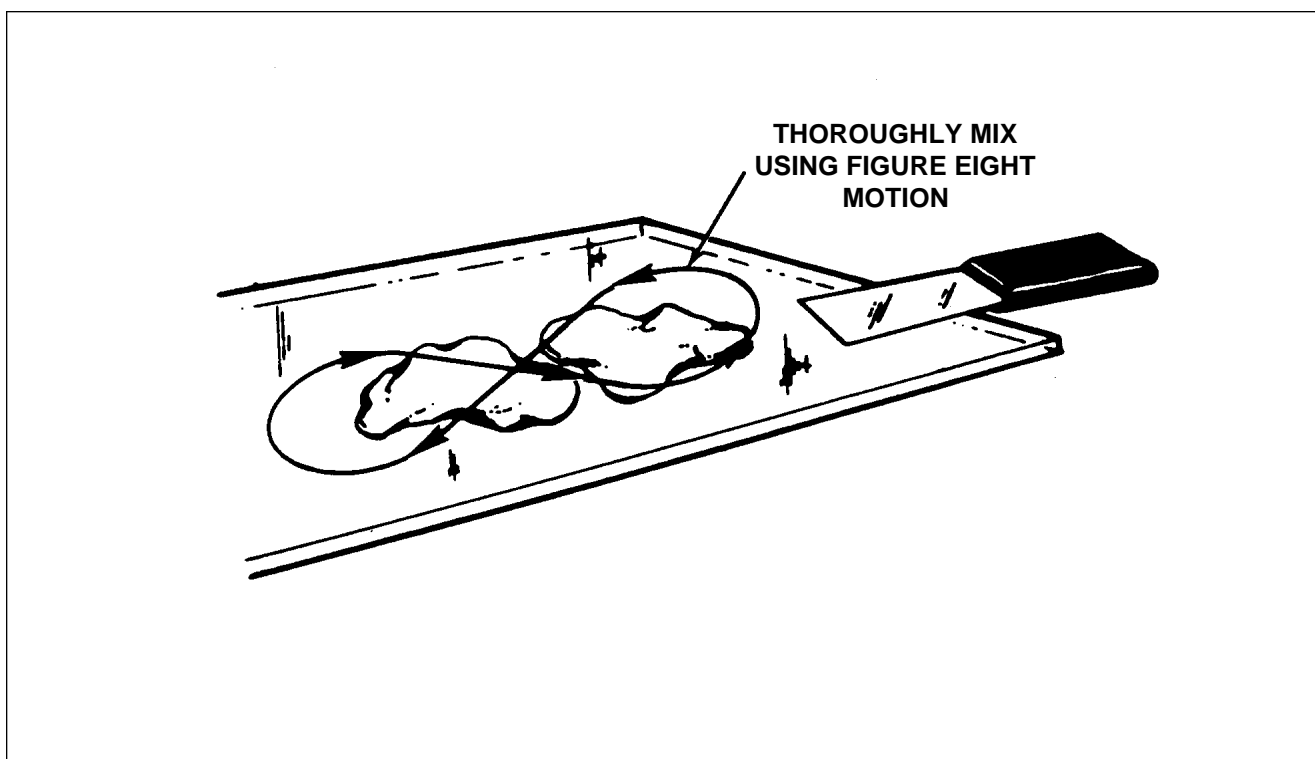

Figure 4-16. Mixing of Epoxy Patching Compound
5. Mix patching compound in equal portions on a hard flat surface (use a figure eight motion). Clean damaged area with perchlorethylene or VM&P naphtha prior to applying compound (figure 4-16).